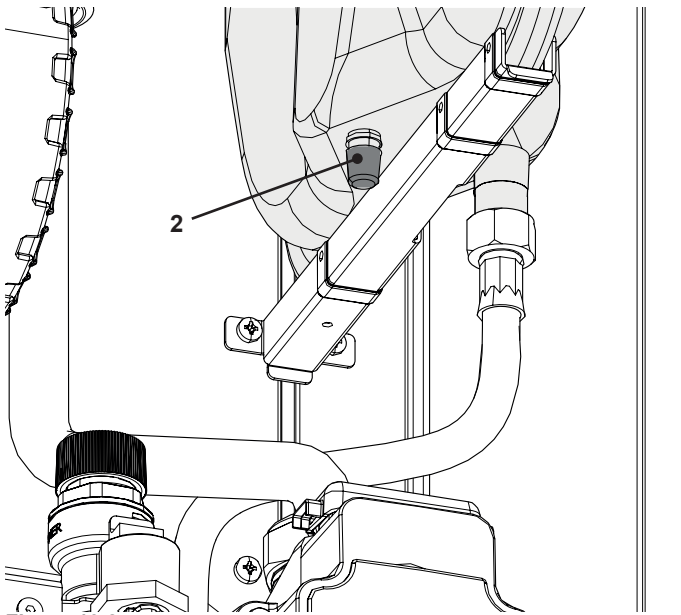

Figure 13.2
- 2 Remove the protective cap "2" in Figure 13.2 from the valve on the top of the expansion vessel and connect a suitable air pressure gauge.